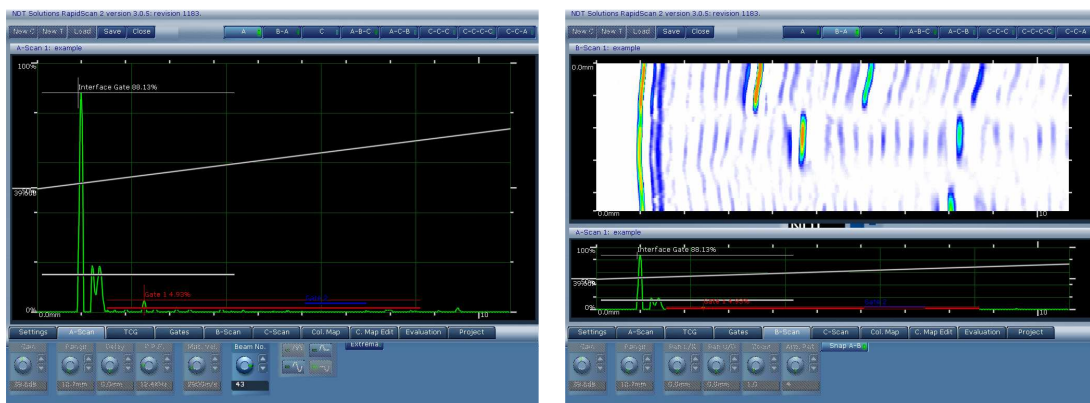

Figure 20: A View and B-A View
- **A** A large A-scan view (Figure 20)
- **B-A** A large B-scan and smaller A-scan view (Figure 20)